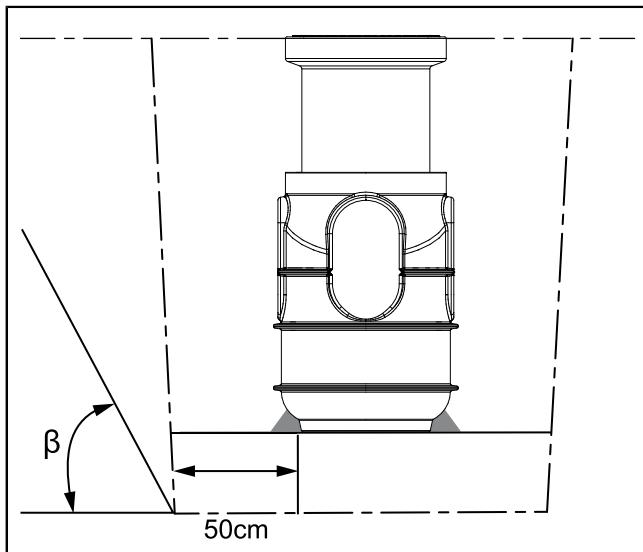

Fig. 1: Soil excavation
► Backfill the remaining space (see "Fig. 1: Soil excavation", page 24) in sections using 0/16 fill material. After every 30 cm compact to DPr = 97%, up to the height of the ground edge or standard road structure.